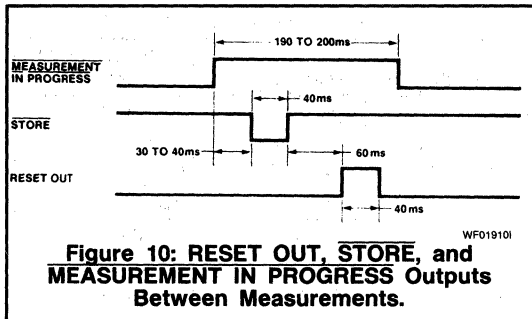

**Figure 9: External Range Input to End of MEASUREMENT IN PROGRESS.**
**External RANGE Input**—The EXTERNAL RANGE Input is used to select other ranges than those provided on the chip. Figure 9 shows the relationship between MEASUREMENT IN PROGRESS and EXTERNAL RANGE Input.